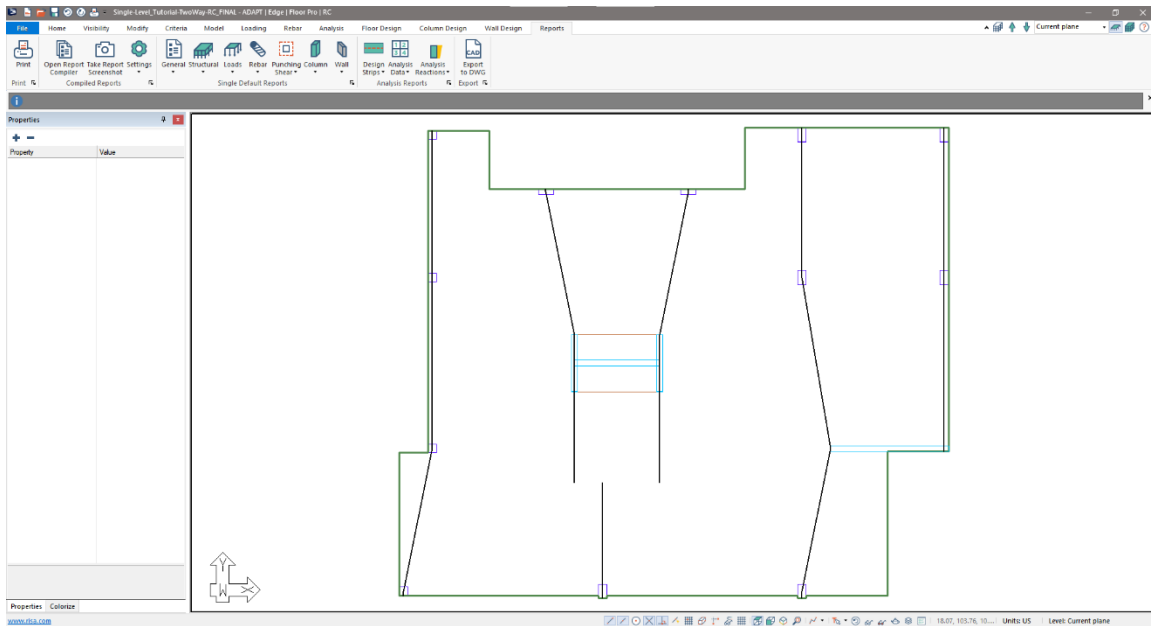

Figure 6-29
- Create another support line along the wall to the right of the wall we just placed a support line over in the same manner as we did the previous support line. When finished the user should have support lines in the model as shown in **FIGURE 6-29**.